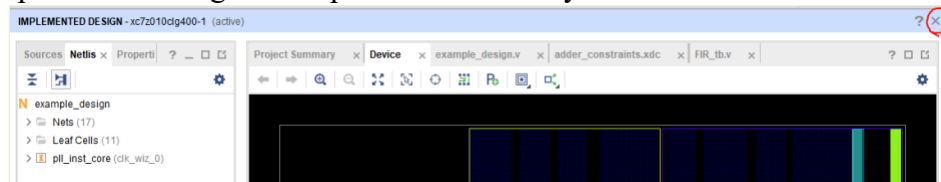

Figure 15 Closing the implemented design
- a) Close the implemented design in the previous section by click on the ‘X’ as shown in Figure 15.